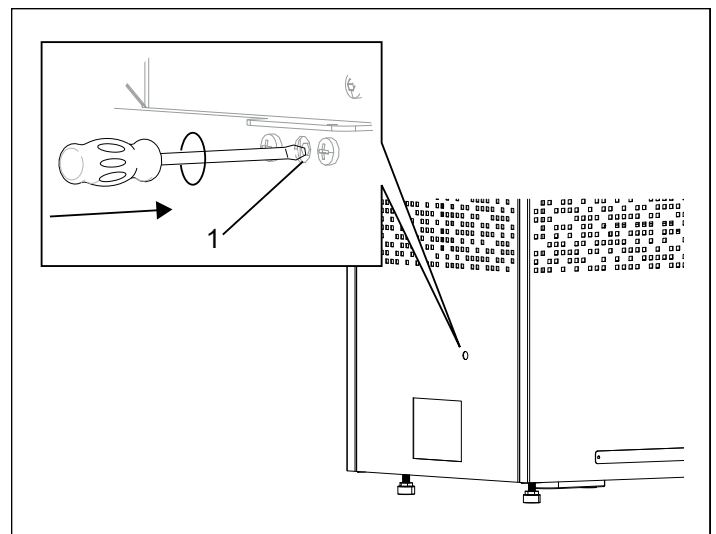

Figure 6: Resetting the temperature cut-out
- **Heater** - The temperature cut-out in the heater is there to protect the components, heating elements and woodwork in the sauna from overheating. On the left side, seen from front, there is an hole, use a slim object to reset the cut-out, see figure 6. If the cut-out has activated, the button will feel stiff and will 'click' when reset. If the cut-out has not activated and after resetting, the button will feel springy.